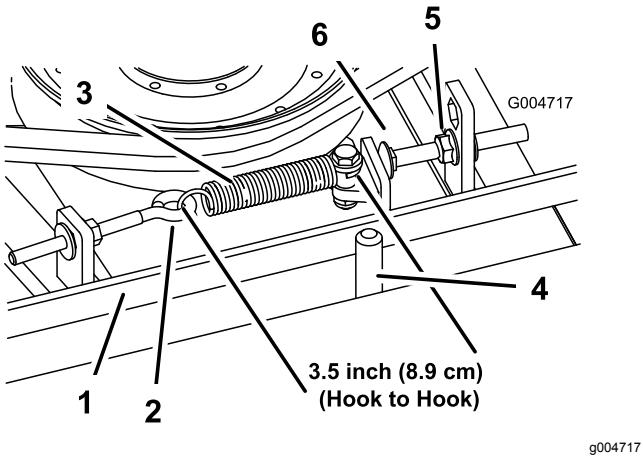

Figure 93
When properly tensioned, the inside measurement of the extension spring (hook to hook) should be approximately 8.3 to 9.5 cm (3-1/4 to 3-3/4 inches). Once the correct spring tension is attained, adjust the stop bolt (carriage bolt) until there is approximately 2 to 5 mm (0.065 to 0.185 inch) clearance between the head of the bolt and the idler arm (Figure 93).
**Note:** Ensure that the belt is positioned on the spring side of the belt guide (Figure 93).
9. Connect the extension spring (Figure 93) to the eye bolt and tension the belt as follows:
2. Loosen the eye bolt allowing the removal of the extension spring (Figure 93).
3. Loosen the flange nut securing the stop bolt to the mounting tab and move the idler pulley away from the belt to release the belt tension (Figure 93).